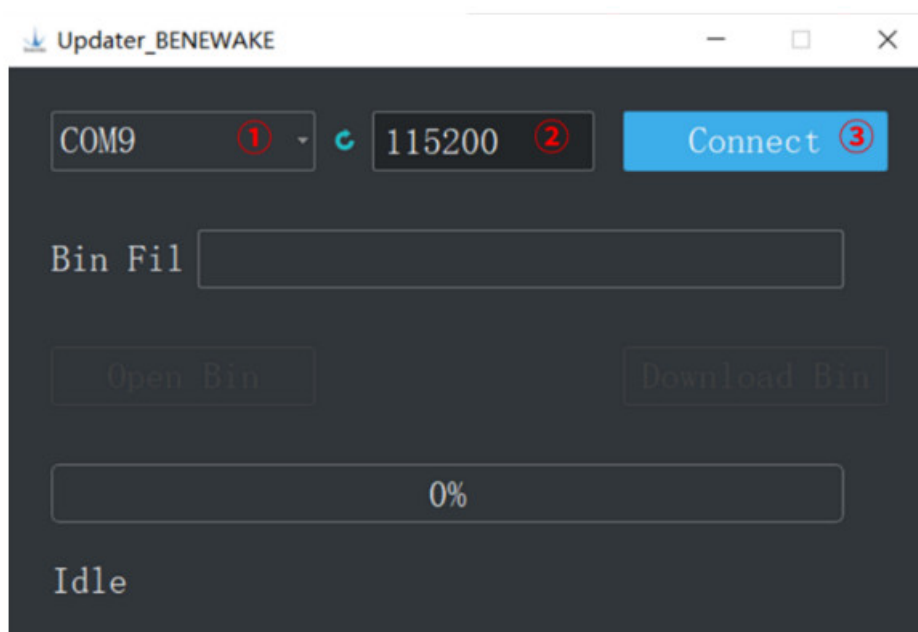

Figure 6-1 Connect the TF02-Pro-W with the software
1. Run Updater_BENEWAKE.exe, Select right port, here is "COM9". Input the right baud rate in "2 115200 and click "3 CONNECT" to connect the TF02-Pro-W with the software. As shown in Figure 6-1.